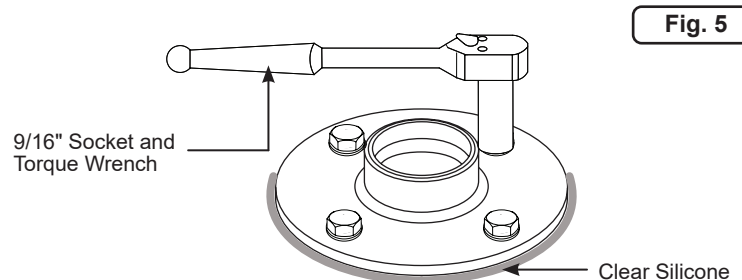

Fig. 5
6. Use a torque wrench and $\frac{9}{16}$ " socket to tighten the anchor bolts securely (approx. 40ft-lbs.) (Figure 5).
8. Apply a thick bead of clear RTV silicone around the bottom bearing plate (Figure 5).